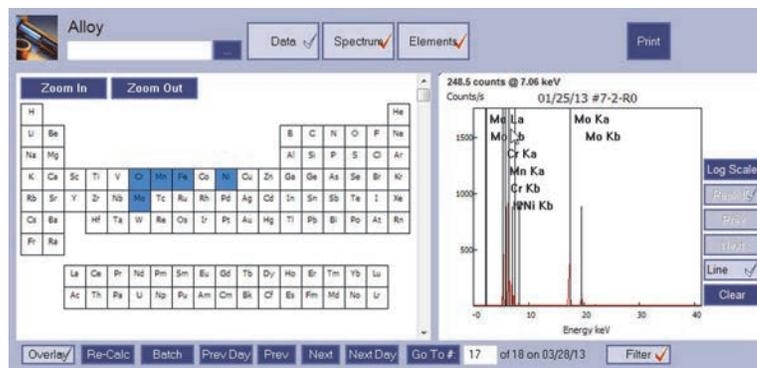

Figure 7-10 Selected elements and their spectral markers
8. To select element markers to display on the spectrum, click **Elements** to display the periodic table, and then select the elements for which you want to see markers (see Figure 7-10 on page 101).